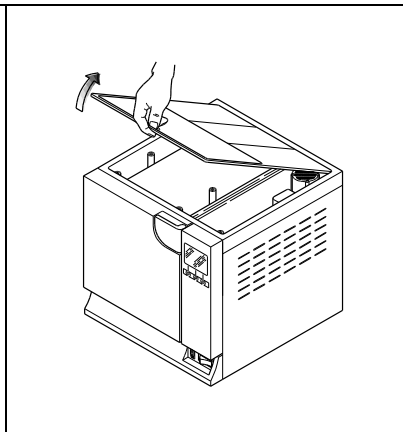
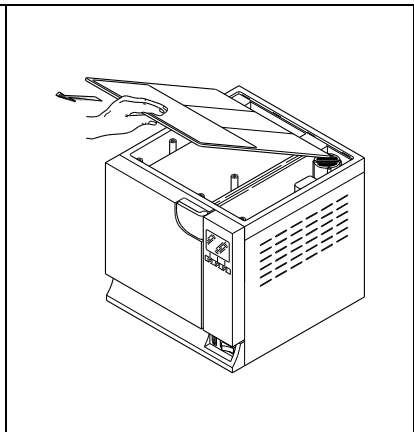

Fig. 10.2-6
Fig. 10.2-7
- lift the cover by 45° (Fig. 10.2-6) and pull it towards you (Fig. 10.2.7).